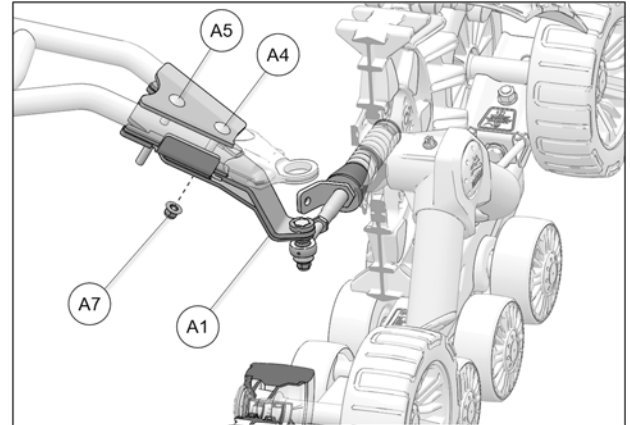

Fig. 21
12. Work bottom part (A1) of anchor bracket under suspension arm and in position so as to be able to insert the carriage bolts (A4-A5) through. Thread nut (A7) on M10x65mm carriage bolt (A4). Torque assembly to 50 N•m [37 lb•ft]. See Fig. 21